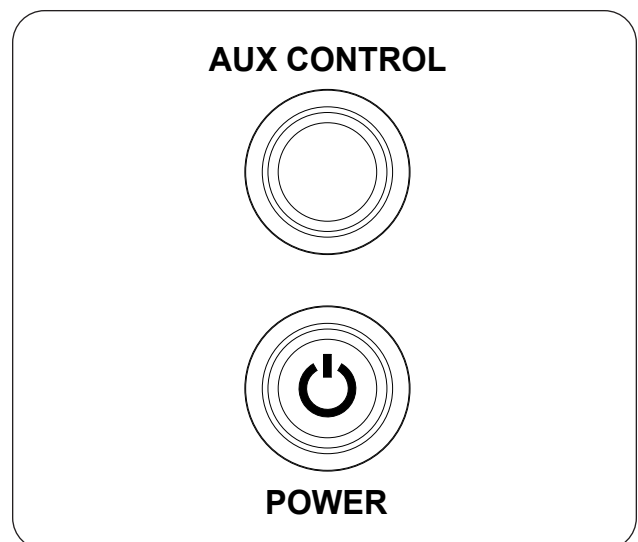

Fig. 39-1 Manual Operation:
1. Locate the control panel on the side of the unit (refer to the IDENTIFICATION PARTS LIST if needed), and identify the **AUX CONTROL** and **POWER** buttons (see Fig. 39-1).
To shut down the burner (system will remain on), push the **AUX CONTROL** button (see Fig. 39-1).
To shut down the burner and system (total shutdown), push the **POWER** button (see Fig. 39-1).